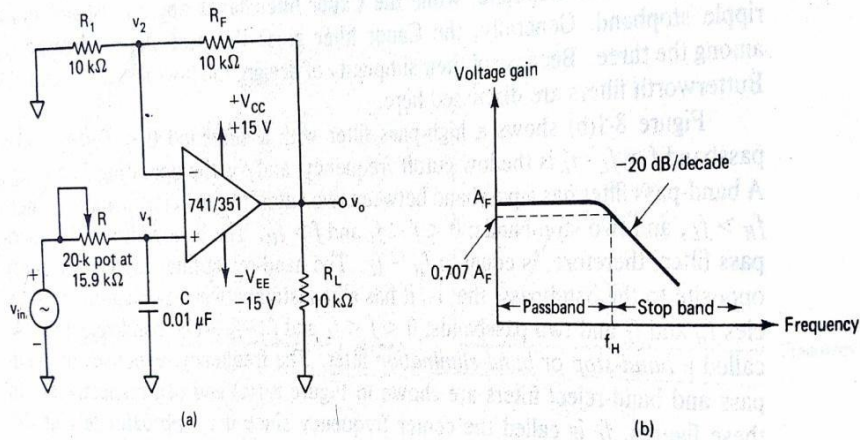

Figure 8-2 First-order low-pass Butterworth filter. (a) Circuit. (b) Frequency response.
- Figure 8-2 shows a first order low pass Butter worth filter that uses an RC network for filtering. Note that the op-amp is used in the non-inverting configuration, hence it does not load down the RC network. Resistors  $R_1$  and  $R_f$  determine the gain of the filter.
- At  $f_H$ , the gain is  $0.707 A_f$ , and after  $f_H$  it decreases at a constant rate with an increase in frequency [see fig 8-2 b]